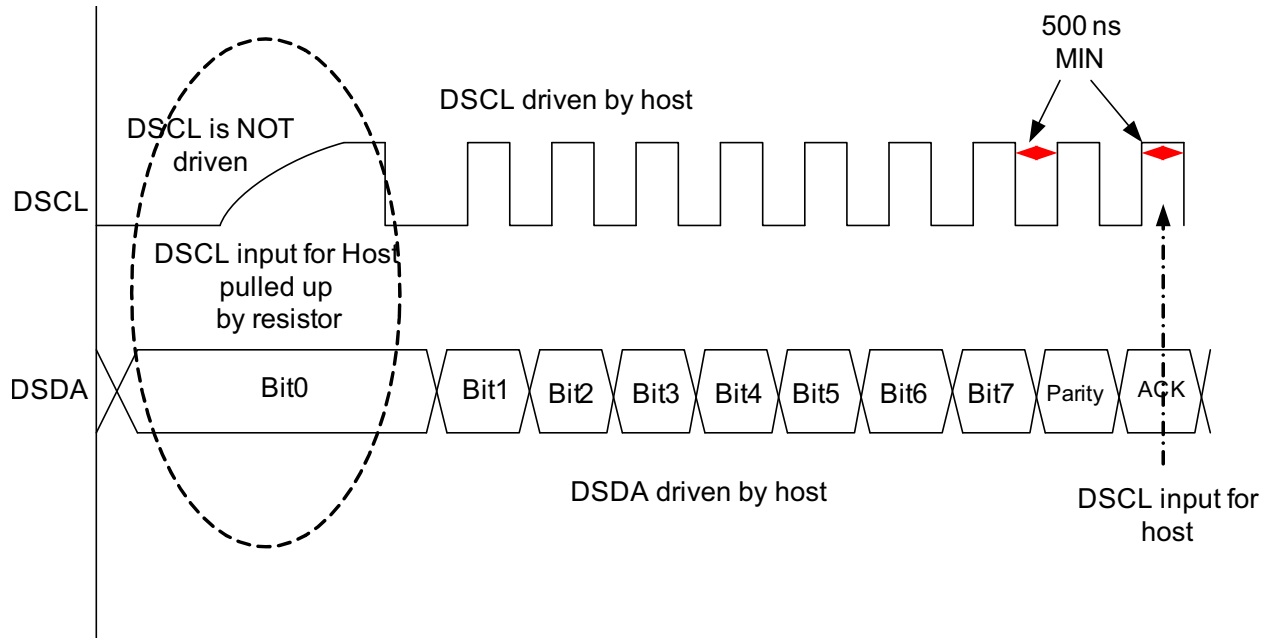

Figure 6. Host Write Timing
If the MCU is in a Busy state during a host write operation, the MCU pulls the DSCL line to GND; the host must wait for the line to be released, as indicated in Figure 6.
► **Note:** In Figure 6, if DSDA is 0000_1100, parity is 0; if DSDA is 0100_1100, parity is 1. If communication occurs without an error, ACK = 0; otherwise, ACK = 1.